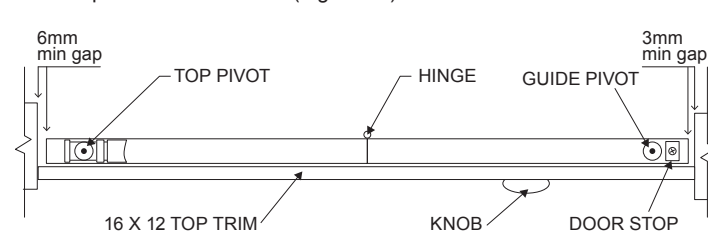

Figure 10
**11** Fit 16mm x 12mm trim against track and down both jambs as top view shown below. (Figure 10)